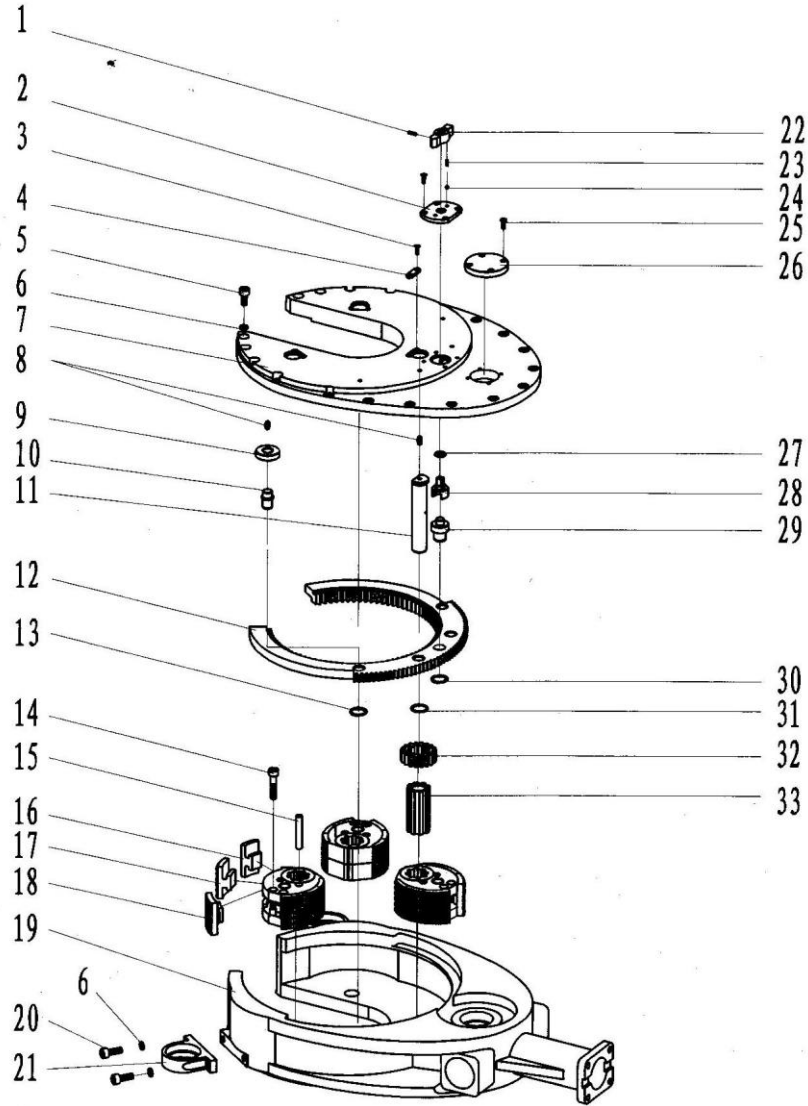

Fig.27
11.10 Backup tong head and parts list (Fig.27, Table 14)